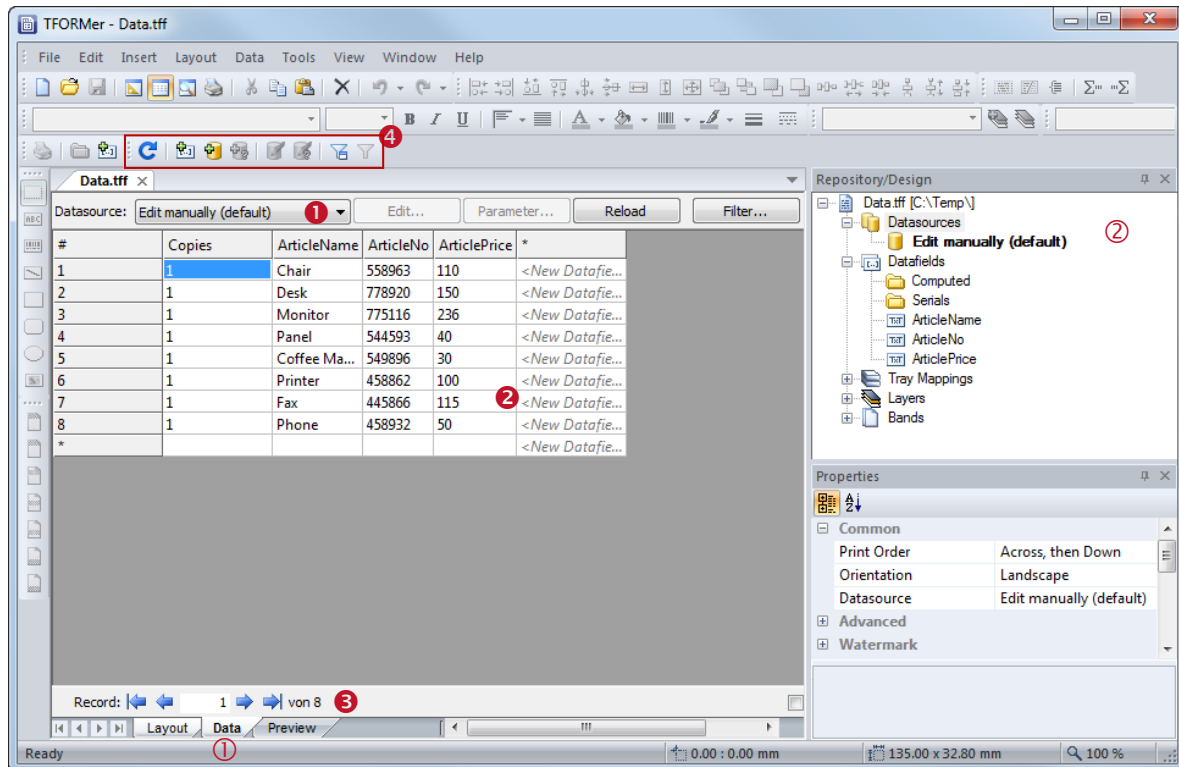

Figure 49: Data View
To switch to the data view click on the **"Data"** tab ⓘ at the bottom of the application window (see Figure 49 below) or select **Data ► Data View** from the menu. Alternatively press the keyboard shortcut **Ctrl+D**.
- Use the drop-down list to switch to the appropriate datasource (see Figure 49, .